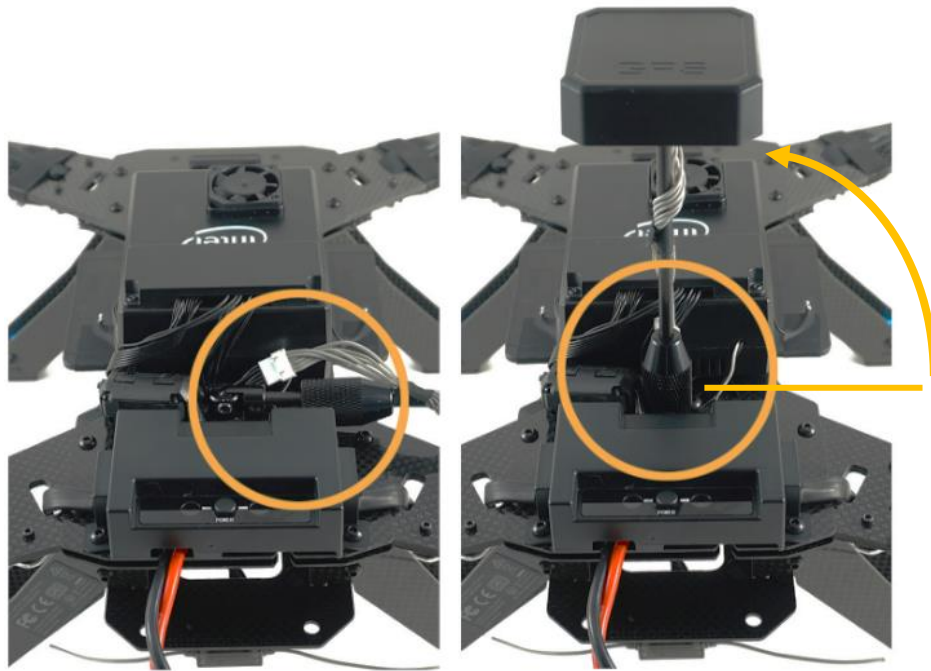

Figure 2. Raising the GPS Antenna Mast
- b. Set up the GPS Antenna (see Figure 2)